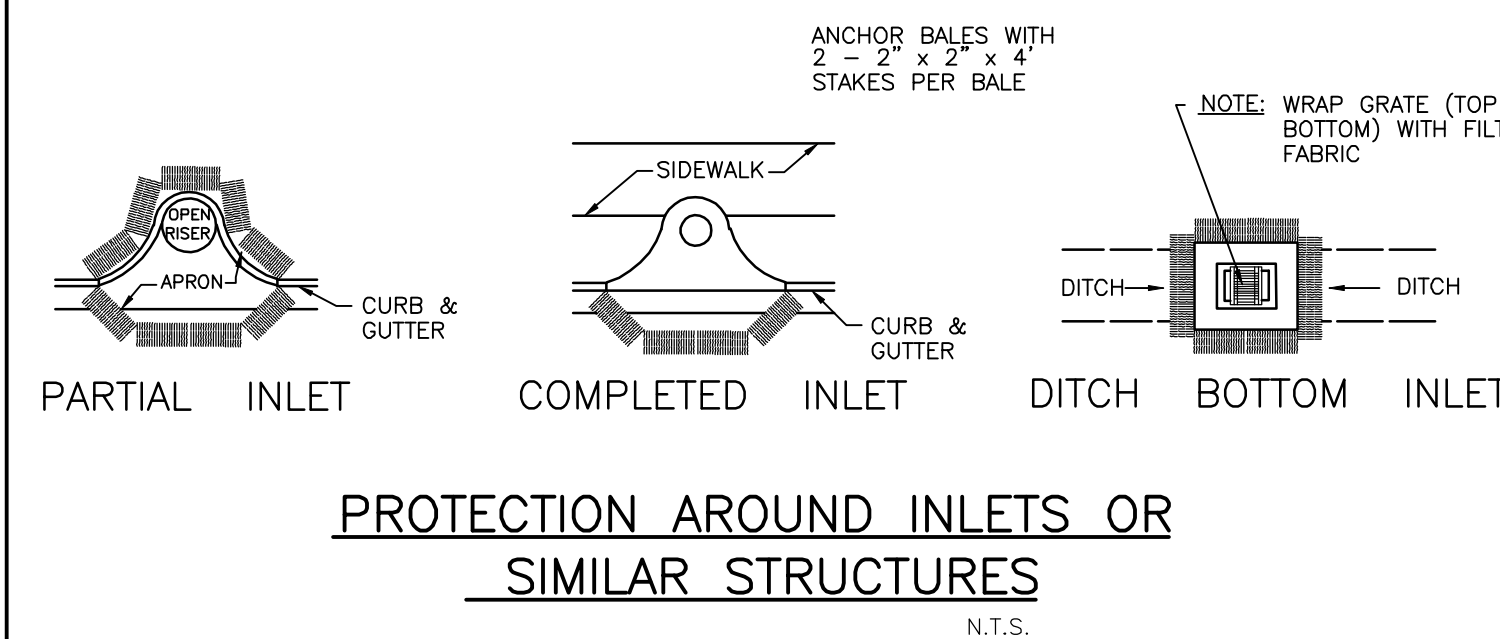
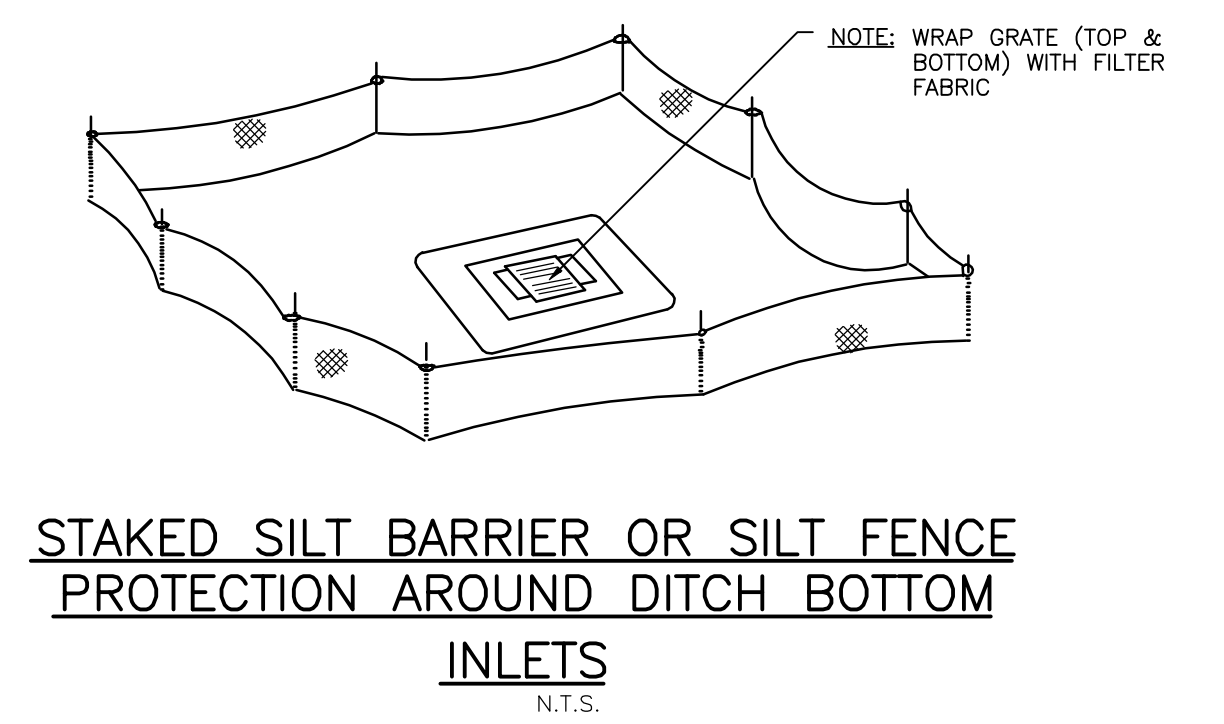

FIGURE 7
FIGURE 8
- 6 INLET PROTECTION (AS PER BEST MANAGEMENT PRACTICES DETAILS, FIGURE 7) (FOR YARD DRAINS SEE FIGURE 8)